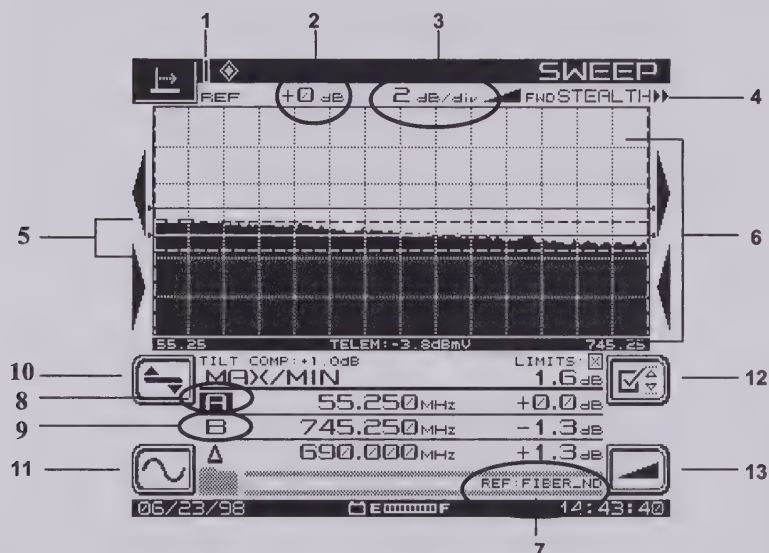

Fig. 4-10 The SWEEP Screen
- **Show Horizontal Markers:** The horizontal markers continuously track maximum and minimum values in the area of the graph between the vertical markers (see Fig. 4-10). Use the up and down diamond keys to display the markers.
The Sweep function has four operating modes, Stealth, Transmit, Loopback, and Sweepless. The current sweep mode is indicated in the upper right-hand corner of the screen (see Fig. 4-10). The Stealth mode allows sweep insertion points to be injected in vacant spectrum areas. The Loopback mode enables you to perform a rough frequency response, gain, and loss test on active and passive devices in the field. The Sweepless mode only measures actual system carriers. Any system carrier can be used as a data point, even scrambled or digital carriers. In either mode, a previously stored response can be used as a reference to the current measurement. Sweep references are selected in the File setup menu (see “Sweep References” in Chapter 11, page 197). The Transmit mode operates the same as the Scan mode with these exceptions: sweep telemetry is transmitted, sweep points are injected, and sweep point levels are displayed (see “Scan Measurements” in Chapter 6, page 111).
You can get to the SWEEP screen (see Fig. 4-10) through the NAVIGATOR or by pressing the SWEEP measurement mode key under lower right corner of the screen.
Call up the frequency screen from the SWEEP screen (Fig. 4-10) by pressing the soft key in the lower left corner.
Call up the level screen from the SWEEP screen (Fig. 4-10) by pressing the soft key above the Frequency Submenu icon.
Call up the limit screen from the SWEEP screen (Fig. 4-10) by pressing the top soft key on the right side of the screen.
Call up the tilt screen from the SWEEP screen (Fig. 4-10) by pressing the bottom soft key on the right side of the screen.
NOTE: Many of the icons and other display features of the reverse SWEEP screen are identical to those shown in Fig. 4-10.